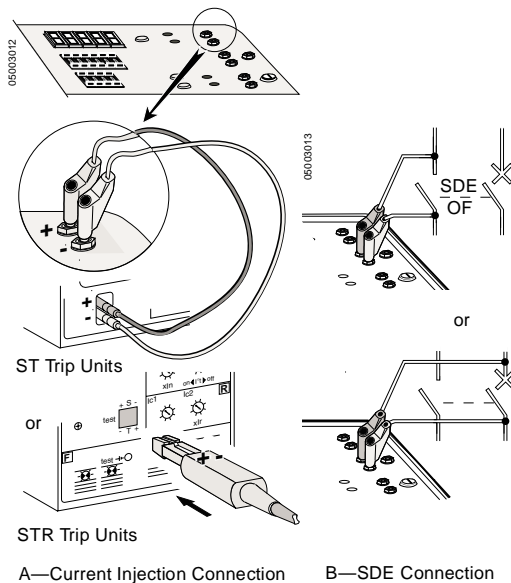

Figure 6: Connect Trip Unit to Test Kit
1. Make sure that LED1 (A) is on.
2. Connect the test kit to the trip unit as shown in Figure 6.